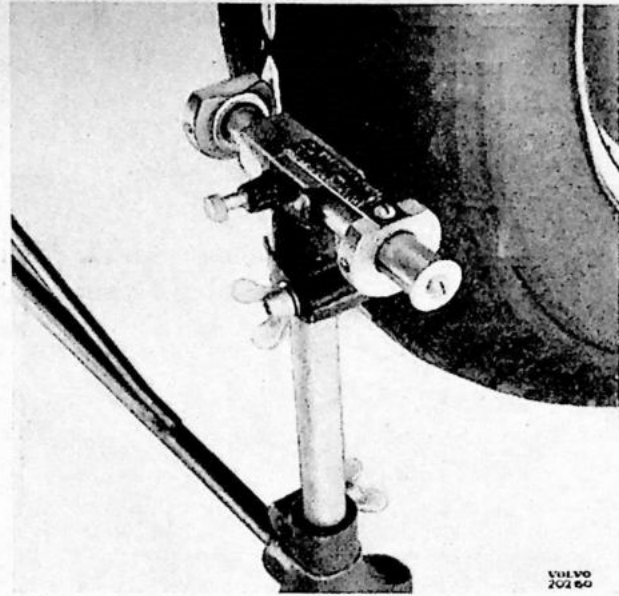

Fig. 41. Reading off the toe-in.
5. Move the tool carefully to the front of the wheel and set the movable point against the mark on the right-hand wheel. Adjust the measuring point against the mark on the left-hand wheel and read off the toe-in (fig. 41). This should be 0—3 mm (0— $\frac{1}{8}$ ").